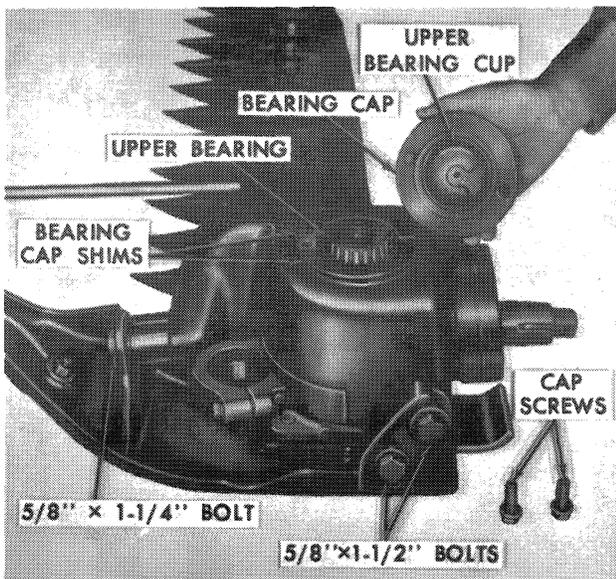
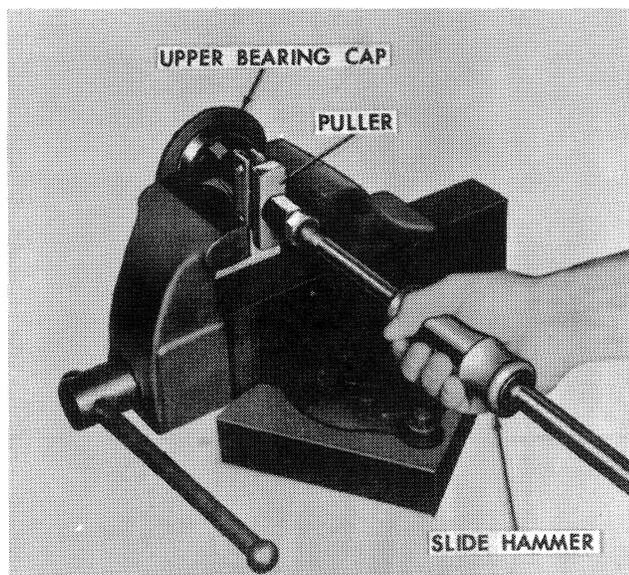
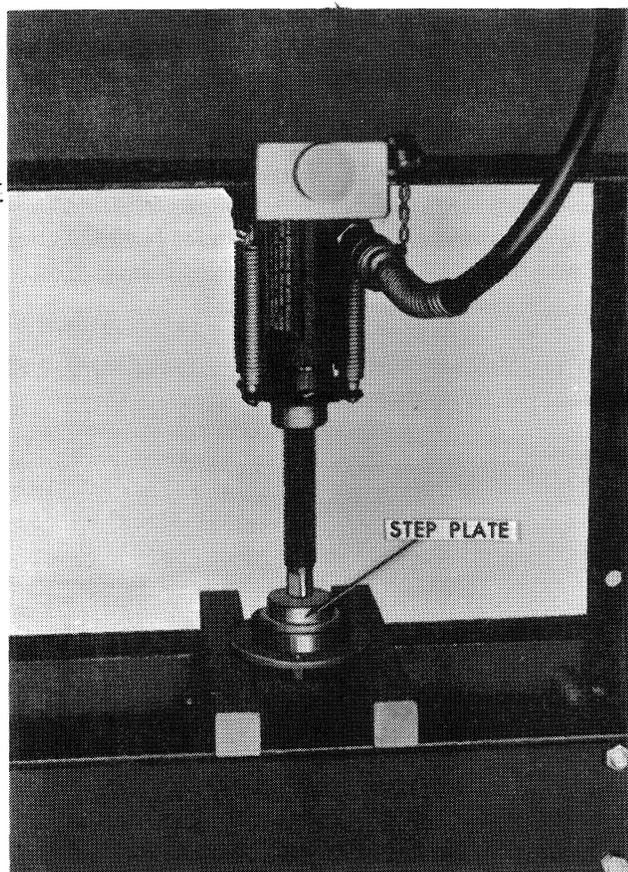

Figure 5
Figure 7
Figure 8
If an adjustment is necessary, add or remove bearing cap shims, Figure 5, to obtain a reading of .000" – .005"; then remove one .005" shim from under each side of the bearing cap to establish a .000" to .005" preload. Tighten the bearing cap bolts to 30 ft. lbs. torque. Be sure to clean the area around the cap before removing or installing shims.
5. Remove the bearing cap, Figure 5, and inspect the bearing cup for scoring and roughness. If replacement is necessary, use a slide hammer and puller to remove the cup, Figure 7. Use a press to replace the cup, Figure 8.
6. Detach the inner shoe from the drive housing by removing the one 5/8" x 1-1/4" bolt and the two 5/8" x 1-1/2" bolts shown in Figure 5.